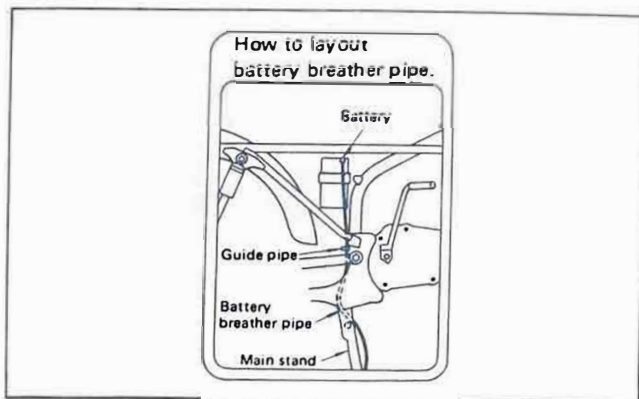

Fig. 45
- d. The breather pipe should be connected as illustrated. (Fig. 45)